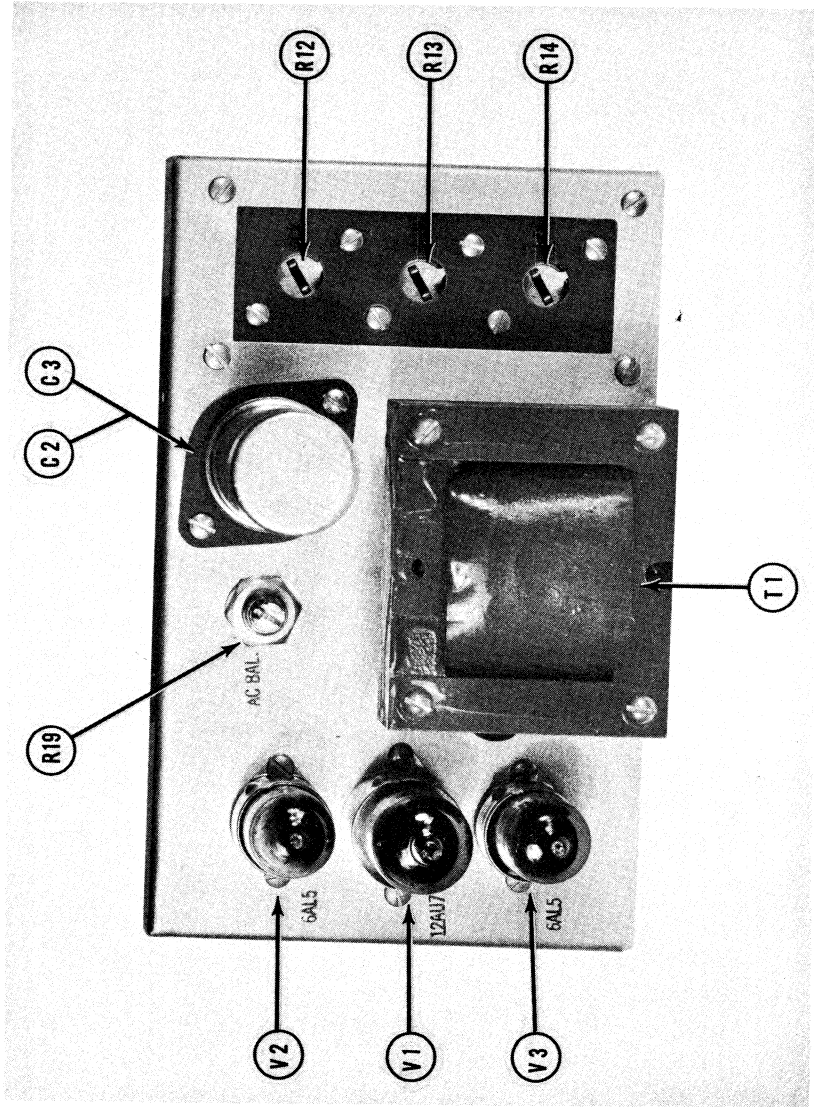

Figure 8
- (g) If the voltage reading of the Tele-Volter is not correct according to voltage indicated by standard meter adjust -DCV calibration adjustment R14. (See Figure 8).
- (g) If the voltage reading of the Tele-Volter is not correct according to voltage indicated by standard meter, adjust +DCV calibration adjustment R13. (See Figure 8).
- (d) Now change circuit switch to ACV position and notice position of pointer. If pointer has moved away from zero, reset to exactly zero by means of AC balance adjustment R19 which is located on top center of chassis near front panel. (See Figure 8).
- (g) If the voltage reading of the Tele-Volter is not correct according to voltage indicated by standard meter, adjust ACV calibration adjustment R12. (See Figure 8).